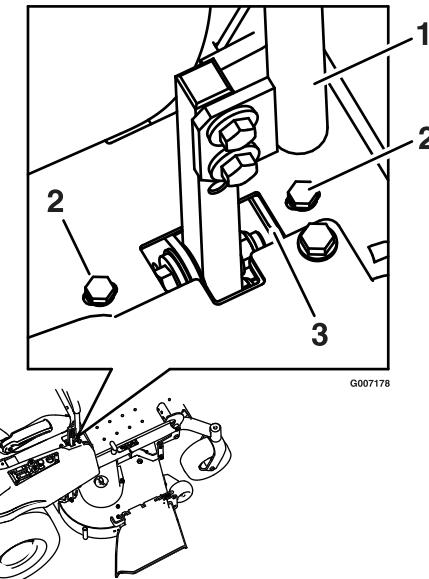

Figure 4
6. If the machine turns right or left when handles are pushed forward together, adjust the stop on the side opposite the direction of turn (Figure 4). Loosen the screws that hold the motion control limiter stop. Move the stop back until the unit drives straight. Tighten the screws to lock the stop in place. Readjust handles if necessary.